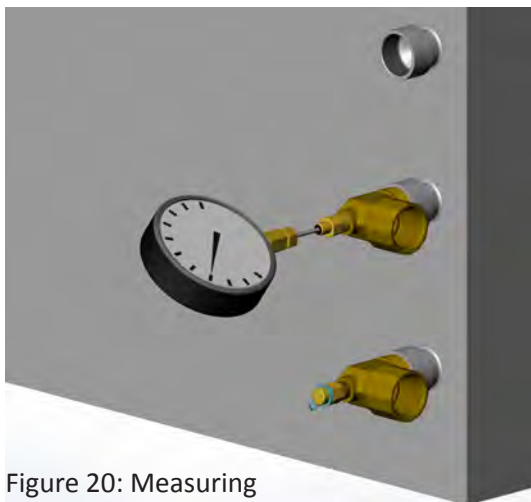

Figure 20: Measuring pressure drop
1. Measure the pressure drop across the heat pump's heat exchanger via the P/T ports located at the water connections of the unit (Figure 20). Use a single large dial face pressure gauge to allow for more precise measurement.